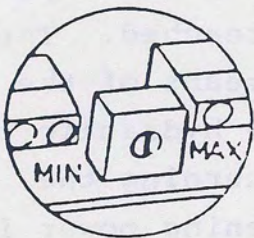

Fig.14b
2. Set the time potentiometer screw as in fig. 14b.